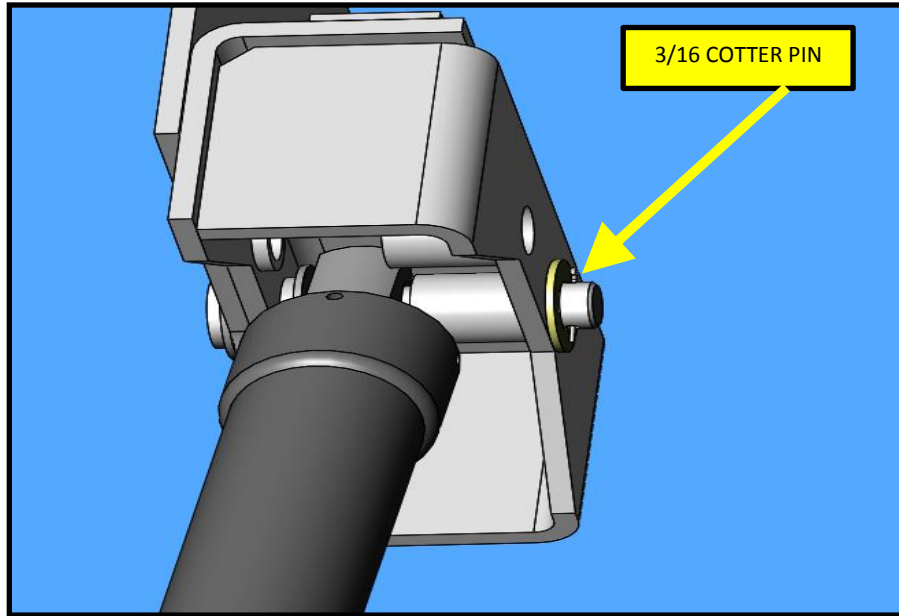

FIG. 17-1
28. Remove and properly dispose of (1) 3/16 cotter pin located in the officer side upper mount lift cylinder. Refer to FIG 17-1.